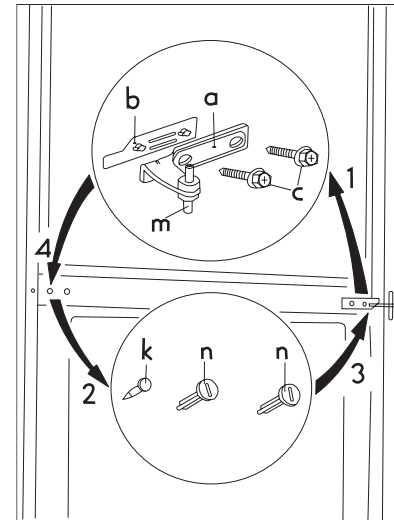

fig. 2.
- Open the doors and dismount the double door hinge (a,b) by removing the screws (2 pieces) (c). (fig.2)
- Take off the double door hinge (a,b,c) by gradually removing it from the cabinet, slightly tilting both doors. Do not forget to remove the plastic spacer (b) under the hinge. (fig.2)
- Remove the covering nails (3 pieces) (n,k) of the double door holder on the left side and put them to the other side. (fig.2)
- Fit the pin of the double door hinge (m) into the left drill of the freezer door. (fig.2)